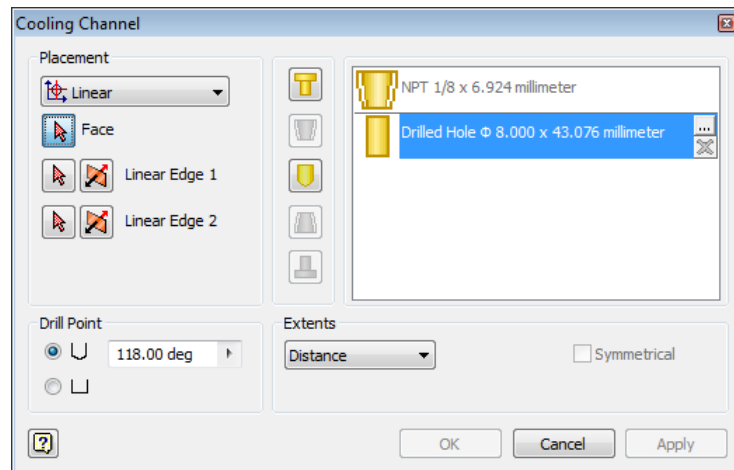

*Figure 19-90 The locating ring created*
2. Choose the **OK** button from the dialog box; the locating ring is created, refer to Figure 19-90.